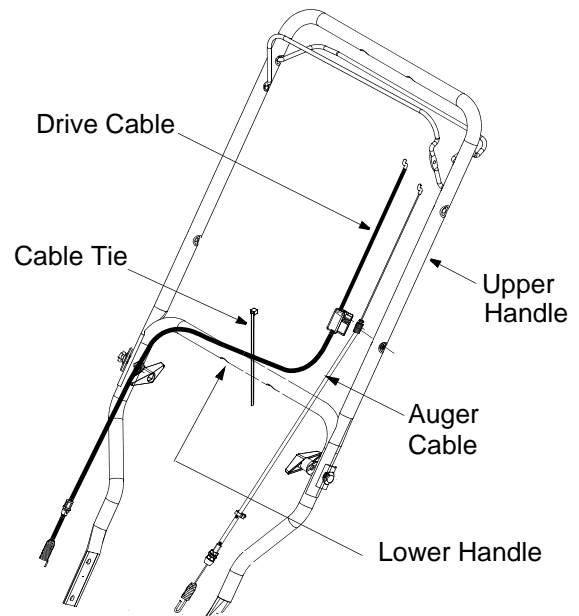

Figure 4
- Make sure that the drive cable is routed parallel to the left upper handle, then across the top of the lower handle and finally parallel to the right lower handle. Cable ties (included in the plastic bag that also contained this manual) should secure the cable to the top of the lower handle. See Figure 4.